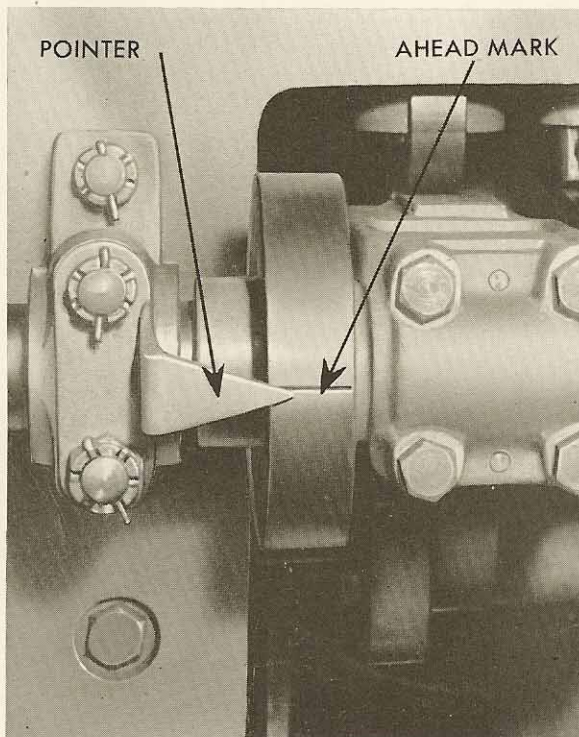

FIGURE 18-2
7. ADJUSTMENT OF THE HAND WHEEL: If this assembly has been removed, the proper timing for replacement follows: Remove the No. 4 crank pit door. On the latch-shaft coupling between the No. 4 and No. 5 cylinders are scribed marks which come under a pointer shown in Figure 18-2. These marks are made after the correct position of the latch shaft is determined during manufacture.